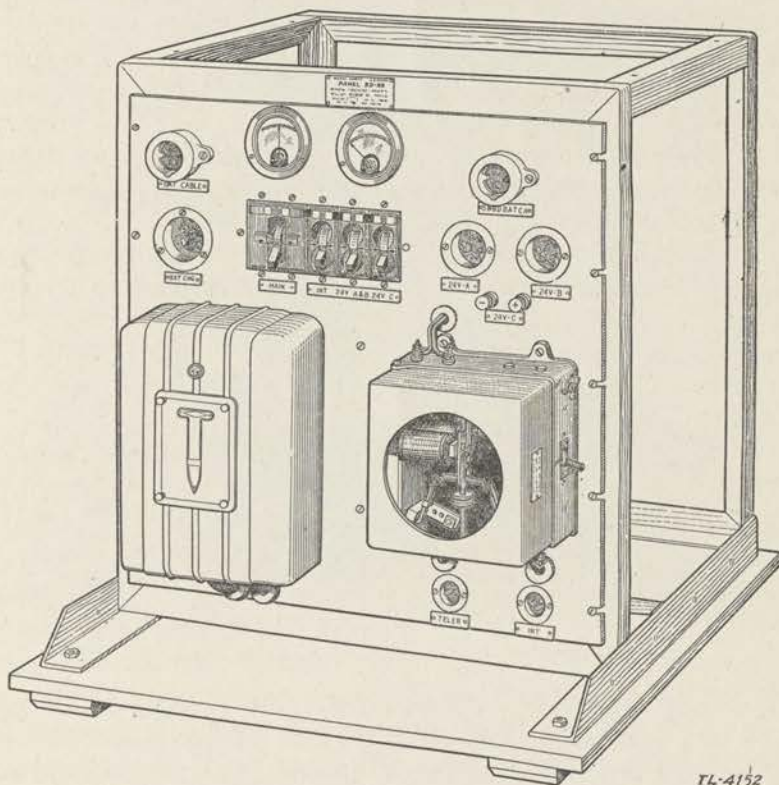
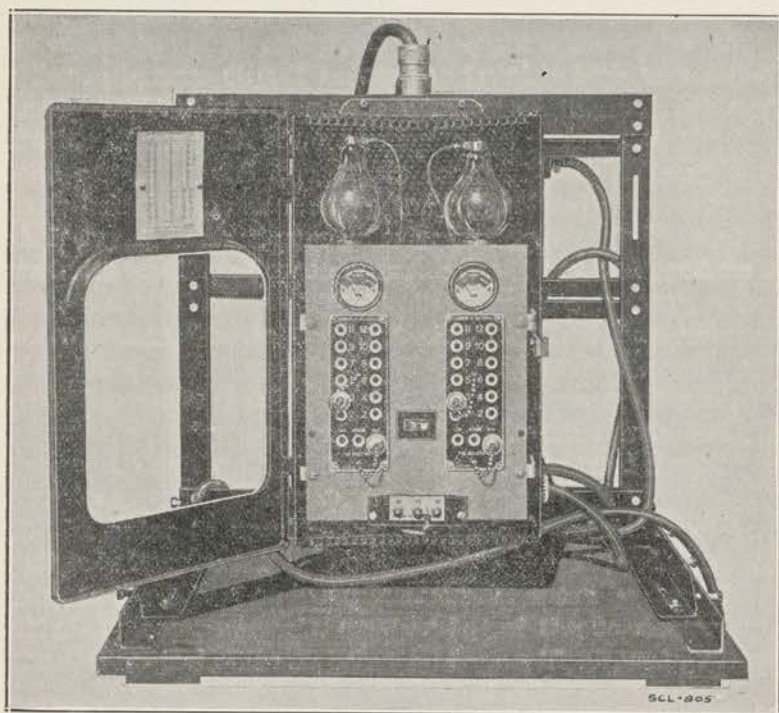
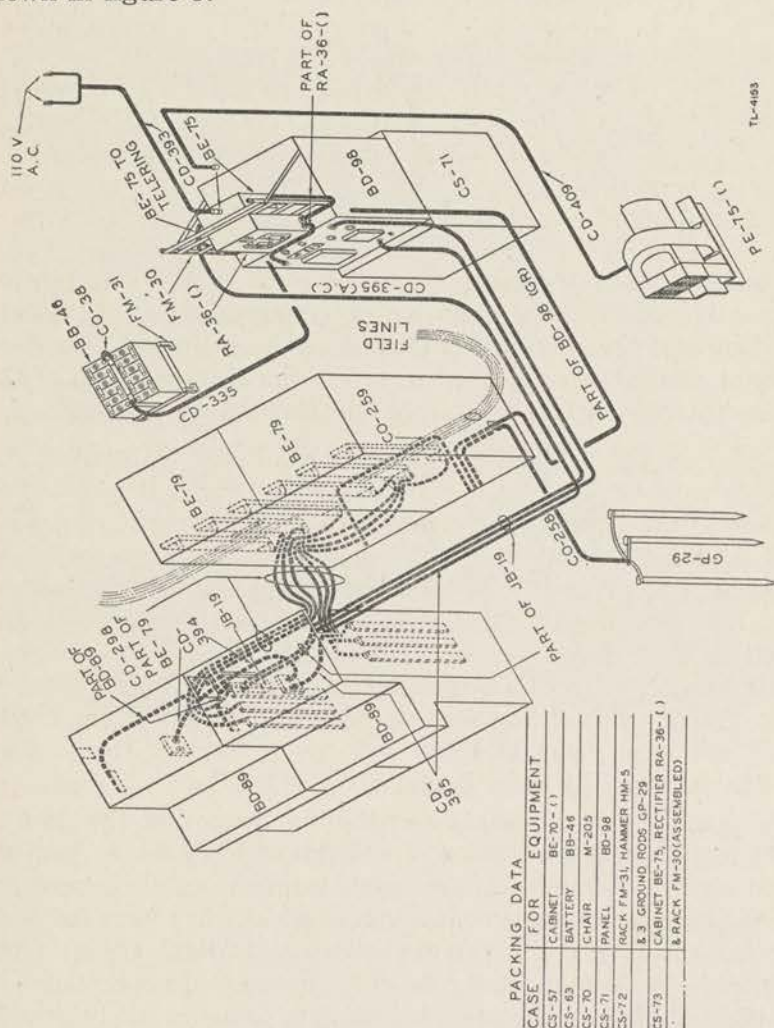

FIGURE 3.—Panel BD-98.
FIGURE 4.—Rectifier RA-36-A, B, or C.
FIGURE 5.—Cording diagram, TC-2.
c. *Power equipment*.—The power equipment consists of two batteries BB-46 for furnishing 24-volt d-c power to switchboard BD-89-A, one panel BD-98 (including ringing equipment) (fig. 3) for d-c power control, one rectifier RA-36-A, B, or C (fig. 4) for charging the storage batteries, one cabinet BE-75 for control of the a-c power distribution, and one power unit PE-75-A, B, or C (covered in TM 11-900 or TM 11-901) for supplying a-c power when such power is not available from an independent source. Flexible rubber-jacketed cables are included for interconnecting the several units of power equipment (see fig. 5). Cases are furnished for transportation of the equipment.
d. *Rectifier RA-36-A, B, or C* (fig. 4).—Rectifier RA-36-A, B, or C, supplied as part of the TC-2, is a full-wave, vacuum-tube rectifier, capable of charging storage batteries at a maximum rate
**4. Setting up and connecting equipment.**—*a.* Refer to figure 5 for cabling arrangement. Set the switchboard in the desired location and remove the front cover. Loosen the drop support mounting screws (at the extreme ends of the drop support strips) and raise the drop supports from the locking position to the service position, leaving the drops free to fall. Remove the panel underneath the keyshelf and remove the cord weights from the cord-weight support. Place the movable member of the cord-weight support back so that it will not interfere with the movement of the cords. Remove the rear panel and the top cover. Inspect the switchboard for damaged or loose parts.
*c. Cording diagram.*—(1) Figure 5, cording diagram, shows the necessary cord connections when two switchboards BD-89-A are used together. However, the same cording arrangement may be
used when only one switchboard is required, by using only those cords and connections that apply to the right-hand switchboard shown in figure 5.
(2) Install the 24-volt battery group (2 batteries BB-46), power unit PE-75-A, B, or C, and panel BD-98 in the selected location. See figure 5 for method of assembling case CS-71, panel BD-98, and rack FM-30 (containing rectifier RA-36-A, B, or C, and cabinet BE-75) into one unit. Install the three ground rods GP-29. Connect cord CO-258 from cabinet BE-79 to ground rods GP-29, and the
*f.* When a second switchboard BD-89-A and its associated cabinet BE-79 are required, install them as indicated in figure 5. Supply a-c power to the second switchboard BD-89-A from the first switchboard BD-89-A by means of cord CD-394. Connect the battery and ringing current cord of the second switchboard to junction box JB-19 of the first switchboard. Extend ground from the frame of the first cabinet BE-79 to the second cabinet BE-79 by means of cord CO-259.
6. Rectifier RA-36-A, B, or C.—*a. Installation.*—Care should be exercised when removing rectifier RA-36-A, B, or C from case CS-73, to avoid damaging the equipment and meters. Mount the rectifier on frame FM-30 and fasten it securely. Before making any electrical connections, be sure that the a-c circuit to which the rectifier is to be connected agrees with the voltage and frequency stamped on the name plate. If there is any doubt about the voltage and frequency of a commercial source of a-c power, consult the local power company for information. Connect the movable primary lead (fig. 4) to the voltage tap, on the primary terminal board, that is nearest the value of the actual line voltage. Install the two rectifier tubes, if these have been packed separately, and attach the connecting leads with clips to the wires at the top of the tubes. The two rectifier tubes must be firmly screwed into their respective sockets.
*b. Connections.*—(1) Before connection is made to the storage batteries, turn the control switch to the OFF position and remove all four adjustment plugs, in order to prevent damage to the rectifier in case the two leads to the battery should accidentally become shorted prior to actual connection to the battery, and to avoid accidentally overloading the rectifier when the batteries are first connected.
(2) The two negative (—) leads have been connected together and wired through a cable to power panel BD-98. This cable is part of rectifier RA-36-A, B, or C.
(3) The positive (+) lead has been wired through a reactance, then through the cable to power panel BD-98. The reactance is used as a noise filter to prevent electrical noise from the rectifier from reaching the storage battery, and thence into the talking circuits.
*c. Operation.*—(1) In order to get the most efficient operation from the rectifier, place the coarse adjustment plugs in correspondingly numbered holes on the right and left control panels (fig. 4). Likewise place the fine adjustment plugs in correspondingly designated holes, LOW, MEDIUM, or HIGH.
(2) Initial settings of the coarse and fine plugs, when charging two batteries BB-46 in series, are as follows: